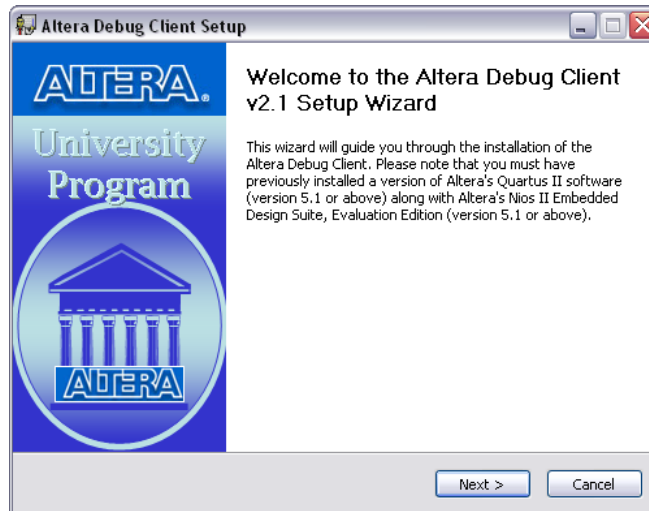

Figure 2. Altera Debug Client Install Wizard.
2. Double-click on this *setup.exe* executable file. This will bring up the first screen of the installer as illustrated in Figure 2. Click on the **Next** button and proceed to the next step.